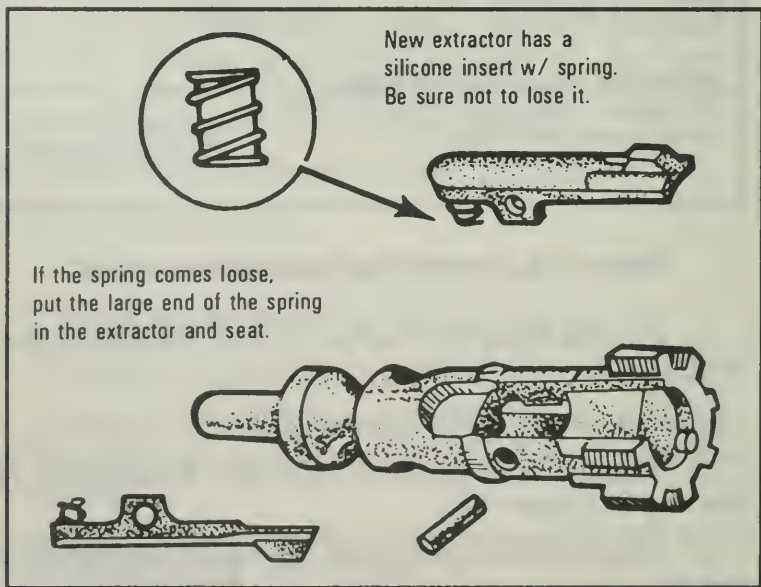

Figure 72. Replacing the extractor and spring.
b. Insert the extractor and spring (Figure 72).